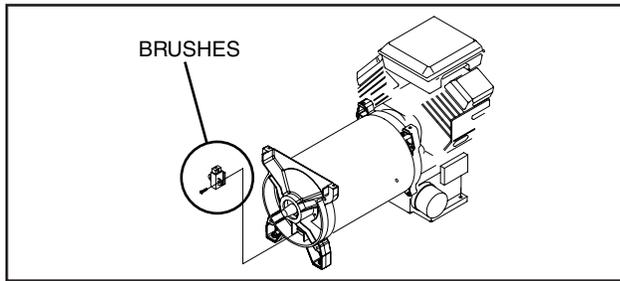

Figure 6-21. – Brush Location
4. Remove the control panel assembly to access the brushes. See Figure 6-21. Connect one meter test lead across Wire 4 (Pin 11) at the C1 connector female side. Be careful not to damage the pin connectors with the test leads, use paper clips - do not force probes into connectors. Connect the other meter test lead to Wire 4 at the brush assembly. Continuity should be measured. If INFINITY is measured repair or replace Wire 4.